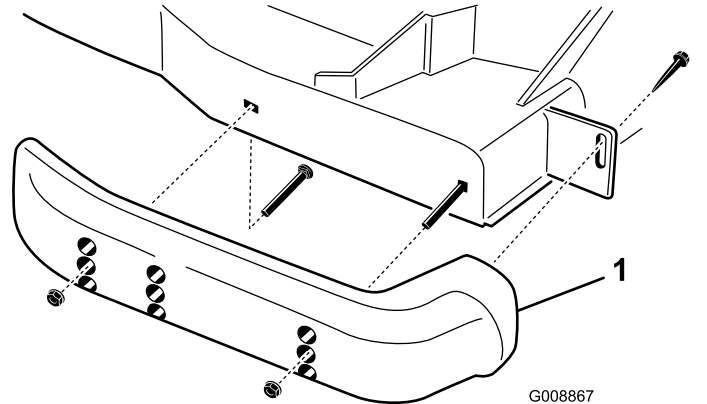

Figure 28
- Loosen the screw at the front of each skid (Figure 28).
- Remove the flange-head bolts and nuts from each skid (Figure 28).